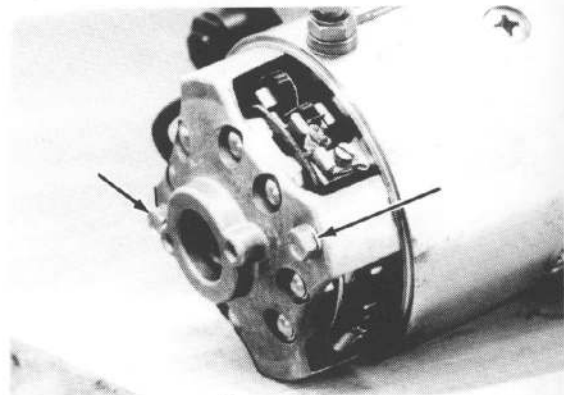

Figure 2-31
5. Position the motor against the valve housing and insert the motor output shaft into the coupler, align motor and install the mounting bolts. Torque bolts to 5-8 lb-ft. See Figure 2-31.